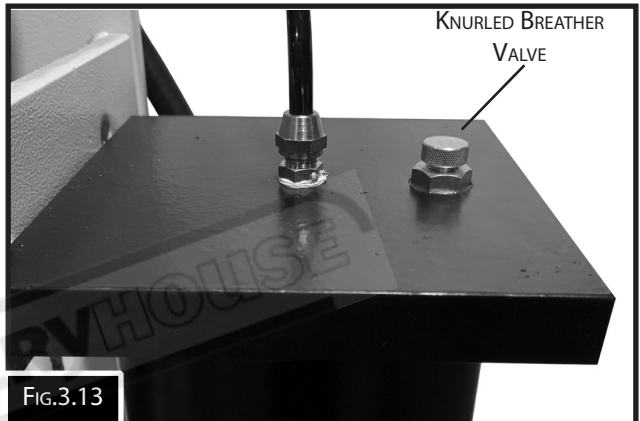

Fig.3.13
1. Connect the air quick coupler to the air supply then open the knurled breather vent on the top of the cylinder (Fig.3.13)